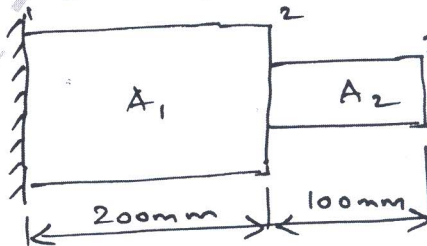

Fig Q10(b)
- b. Evaluate eigen values and eigen vector for the stepped bar shown in Fig Q10(b). Take  $E = 200\text{GPa}$  and specific weight  $7820\text{Kg/m}^3$ . Take  $A_1 = 400\text{mm}^2$  and  $A_2 = 200\text{mm}^2$ .